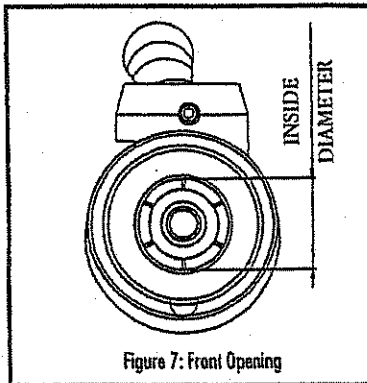

Figure 7: Front Opening
4. Every four months, the inside diameter at the front opening of the CT1000-P36 nozzle (Figure 7) should be measured. If the inside diameter is greater than 24.7mm, then the nozzle should be returned to SHEREX/OPW for repair.